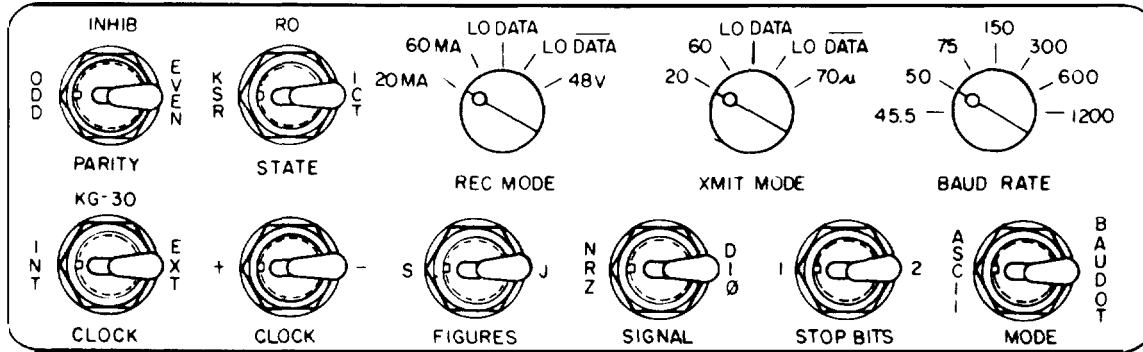

Figure 2-5. INTERFACE ASSEMBLY
- a. Operational states are operator selectable using STATE switch. (See figure 2-5.) These operational states are the only states in which terminal is capable of operating as a communications terminal.